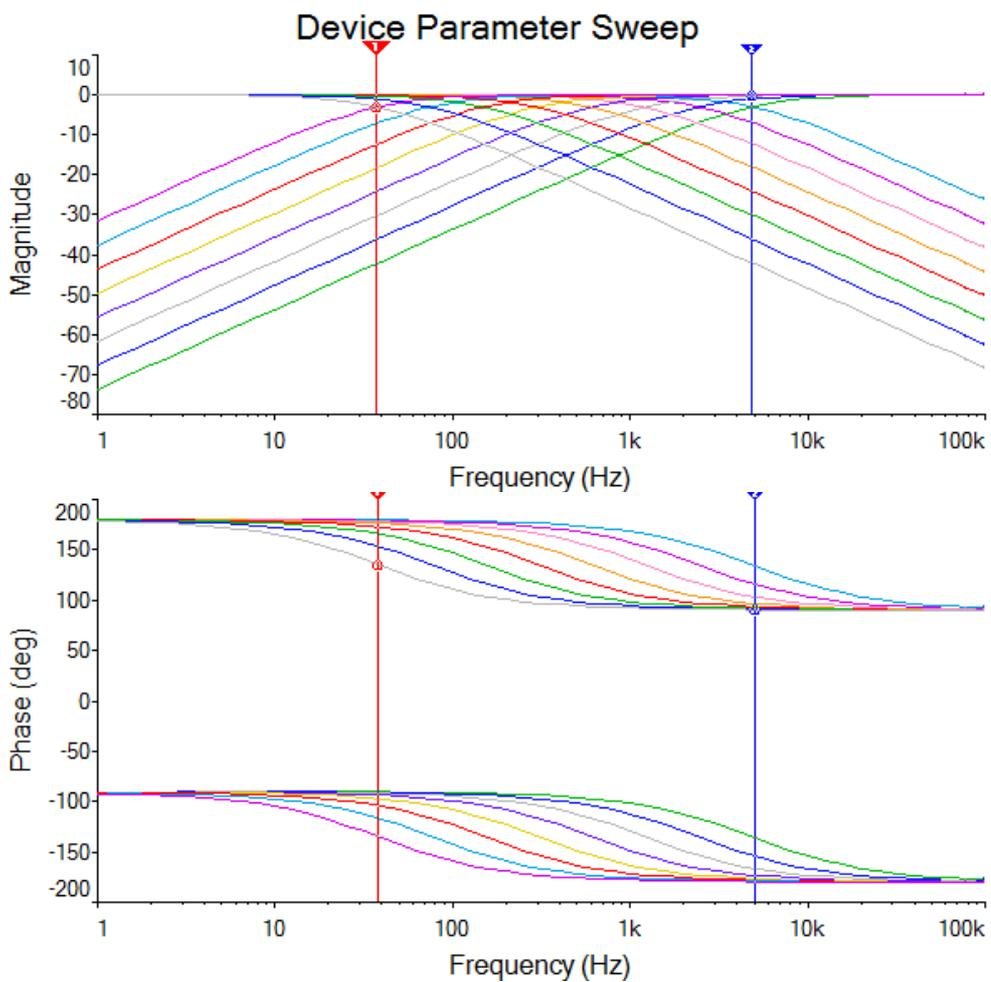

Figure 5.3 Filter spectral characteristics: amplitude (up) and phase (down)
Figure 5.3 shows the AC simulation results with Parameter Sweep: R_{15} sweeps in octave mode, from $20k\Omega$ to $2.56M\Omega$, with 3 points/octave. The 8 swept values correspond to a walking 1 among $\{A\}$ bits, from MSB to LSB:
To get a family of transfer characteristics, similar to the Figure 5.3 simulation:
- The figure shows half of the Figure 5.3 simulated characteristics (the network analyzer can support max 8 reference channels).